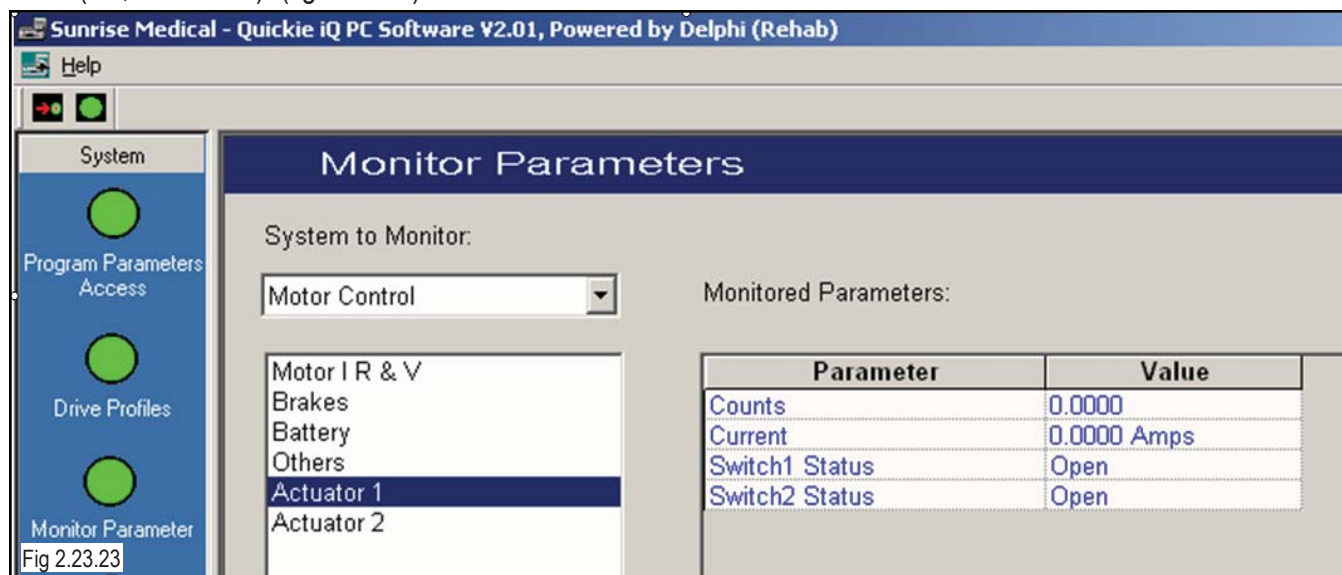

Fig 2.23.23
4. If using the Quickie iQ, select Monitor Parameter followed by Motor Controller, then actuator to test (i.e., Actuator 1). (fig 2.23.23)